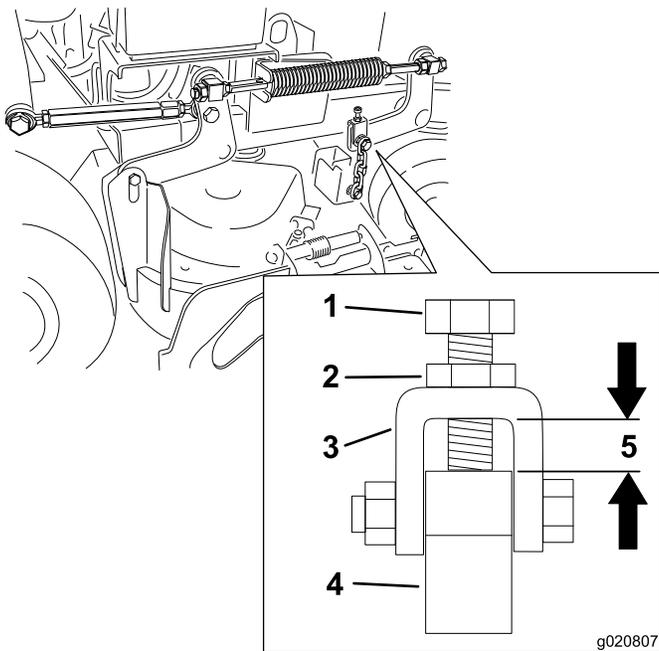

Figure 83
Note: This distance needs to be 11 mm (7/16 inch) as shown in Figure 83.
12. Loosen the jam nut and adjust the adjustment bolt to achieve the correct distance as shown in Figure 83.